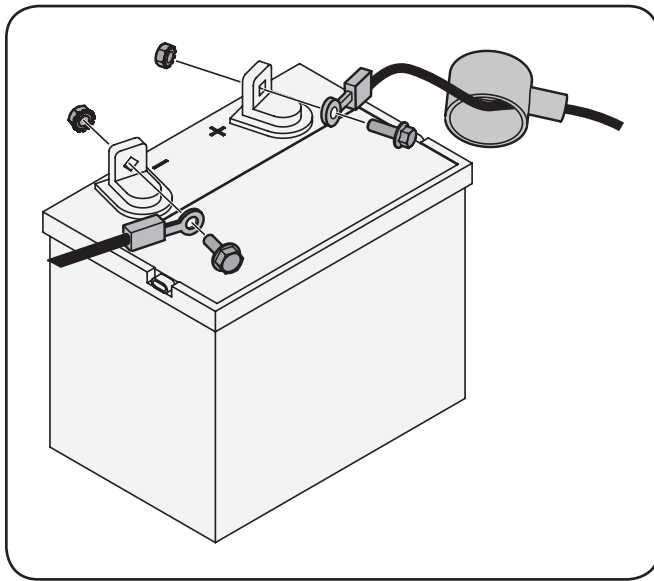

Figure 3-3
1. Remove the plastic cover, if present, from the positive (+) battery terminal and attach the red cable to the positive battery terminal (+) with the bolt and hex nut. See Figure 3-3.
2. Remove the plastic cover, if present, from the negative (-) battery terminal and attach the black cable to the negative battery terminal (-) with the bolt and hex nut. See Figure 3-3.